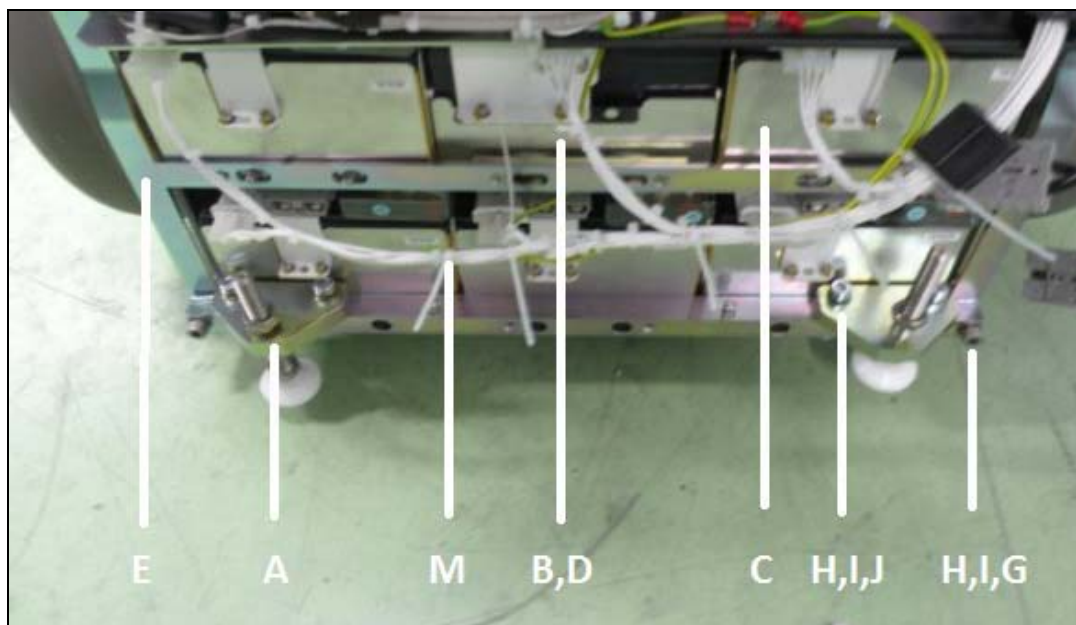

Figure 1
- (21) Remove boot legs with the protectors from the frame that secures the battery trays to the Unit.
- (22) Mount both legs in the supports (see part 'A' in Fig 1 – replacement kit).
- (24) Mount the support of each leg into the Frame (see part 'E' in fig 1- replacement kit) by using the 4 screws M8x30 (see part 'J' in fig 1 - replacement kit) and the washers (see parts 'H & I' in fig 1 – replacement kit).
- (25) Mount the frame that secures the battery trays to the Unit:
- Use 2 screws M8x40 (see part 'G' in fig 1 - replacement kit) to fix the lower side of the replacement frame to the generator.
- (26) Remove the isolation tape from the GND wires.
- (27) Connect both GND wires as originally were.